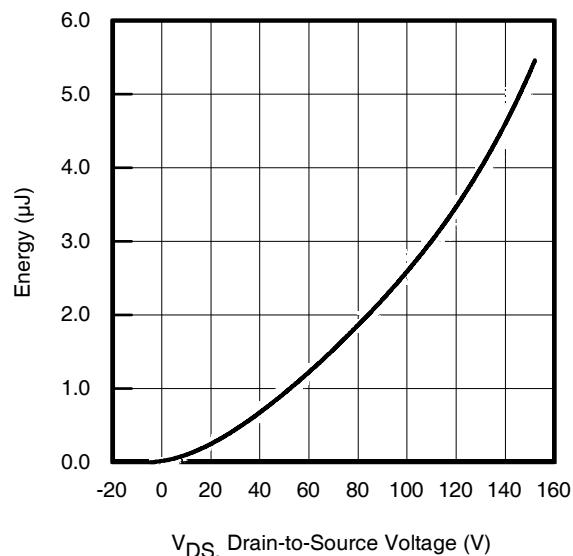

Fig 11. Typical Coss Stored Energy
| $C_{oss \text{ eff. (ER)}}$ | Effective Output Capacitance (Energy Related) | — | 460 | — | pF | $V_{GS} = 0V, V_{DS} = 0V \text{ to } 120V$ ⑥, See Fig. 11 |